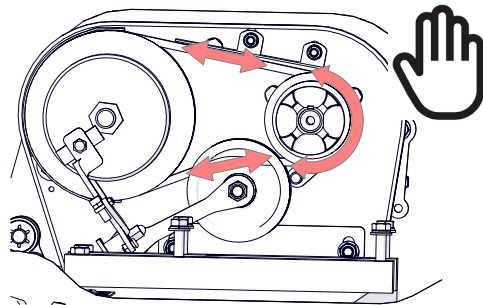
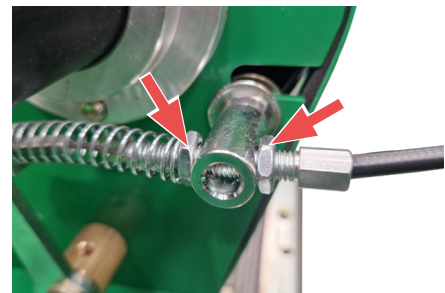

Fig. 14I - Check correct tension by moving the pulley by hand.
Fig. 14J - Tension by adjusting the nuts accordingly.
11. Engage the drive lever. Ensure that when the output shaft is turned (manually), the belt moves and turns the drive shaft pulley (Fig. 14I). Adjust the tension of the cable and arm to achieve this (Fig.14J). Adjusting tension will also alter the engagement point of the drive lever/pulley, resulting in a quicker or slower acceleration - adjust to suit preference.